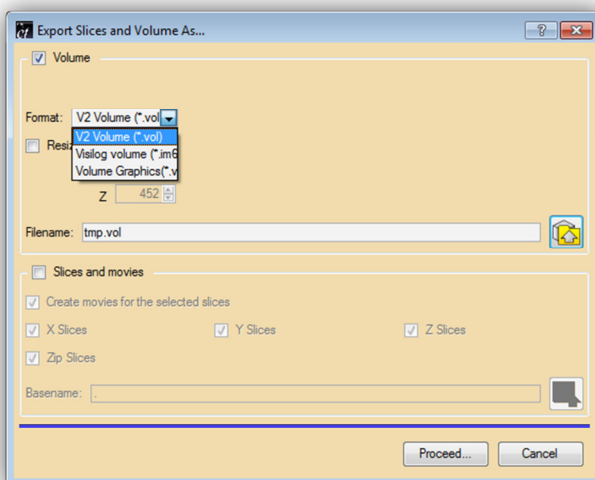

Figure 2.28: Export formats
- Output volume format (Figure 2.28): The volume can be written in the current format of the volume (v2), either in a format compatible with Volume Graphics (VGMax or VGStudio) software or the Visilog software.